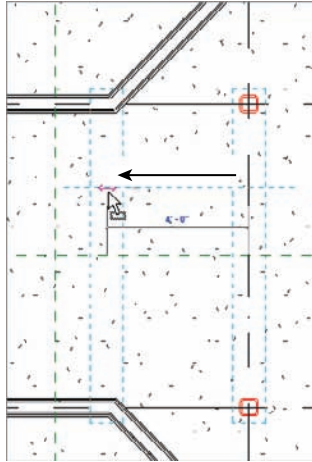

FIGURE 8.31 Moving the columns to the left 4'-0" (1200mm)
2. Select the two columns at the left of the corridor, as shown in Figure 8.31.
3. Move the columns 4'-0" (1200mm) to the left (see Figure 8.31).